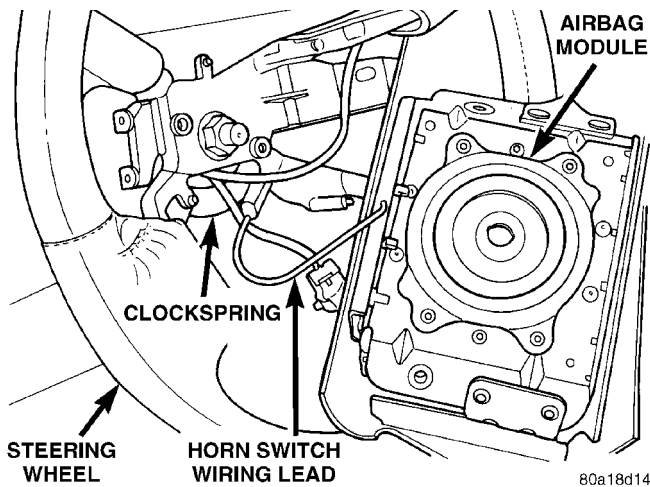

Fig. 11 Clock Spring To Horn Switch Wiring Connection
(8) Disconnect the wiring lead for the horn switch in the airbag module from the wiring lead coming from the clockspring (Fig. 11).